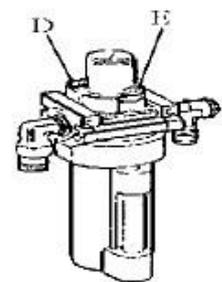

Fig16
Caution: The roller support can't be used for all tires, some tires need following operation: Move the mounting head above the rim; Insert the lifting lever in the clearance between the bottom tire bead and the rim, have the tire hung on the mounting head(Fig 16); Tread the power supply pedal to rotate the turntable. With the help of the mounting head, the tire is detached completely.
Unscrew with hex wrench (E). Based on connection of compressed air, first to depress Jaws open and close Pedal or Turntable Rotation Pedal 5-6 times, and then check whether oil in Oil Fog Maker drops down a drip of oil. For continuous operation, depress twice every time, drop down a drip of oil, otherwise adjust the screw (D) that controlled oil enter with minus screwdriver. (Fig 16)